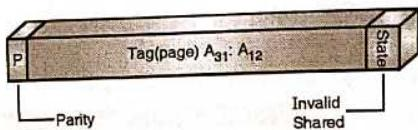

Fig. 13.5.2 : Code cache directory entry
- The code cache is 8KB in size, organized as two-way set-associative mapping configuration. The cache ways are referred to as way zero and way one as shown in Fig. 13.5.2.